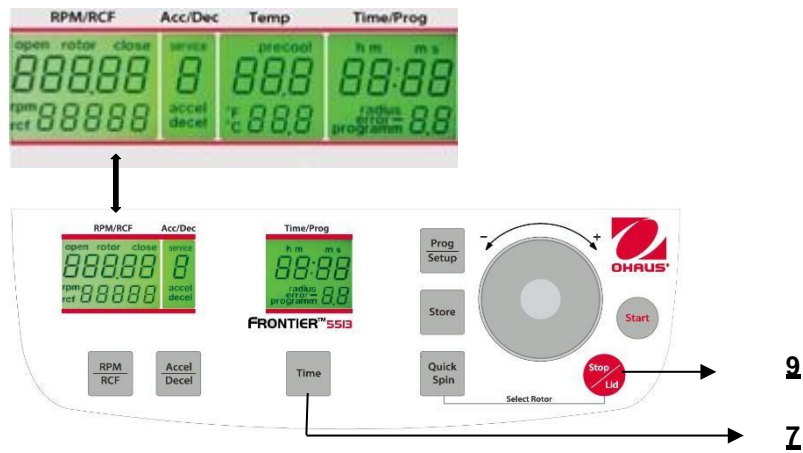

Figure. 27
While the centrifuge is turned off, press simultaneously the keys "**Time**"(7) and "**Stop/Lid**" (9) and turn on the mainswitch of the centrifuge. Now release both keys and as a result a display test is executed for approx. 5 seconds. All indicators will appear at the same time (see figure 27).